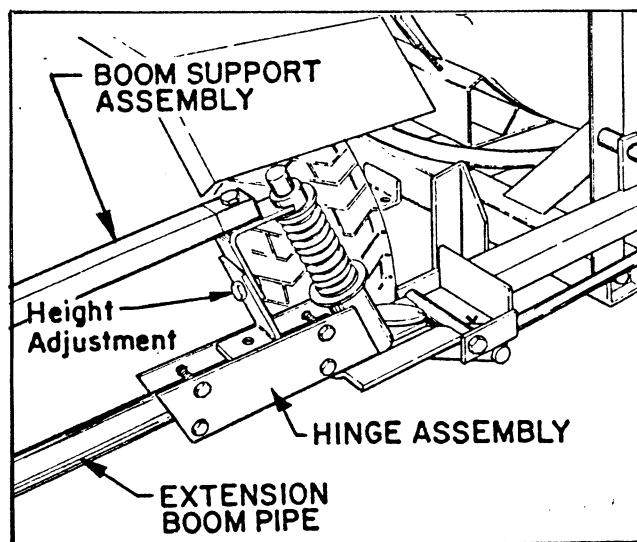

FIG. 8
■ Insert an Extension Boom Pipe into the Pivot Assembly and secure with four 1/4" x 1-1/4" hex hd cap screws and lock nuts. See FIG. 8. Repeat on the opposite side to assemble the other Extension Boom.
■ Attach the Boom Support Assembly to the Pivot Assembly, using a 5/16" x 1-1/2" screw and hex nut. See FIG. 8. Secure the two plates of the Boom Support Assembly to the Extension Boom Pipe, using two U-bolts and four lock nuts.